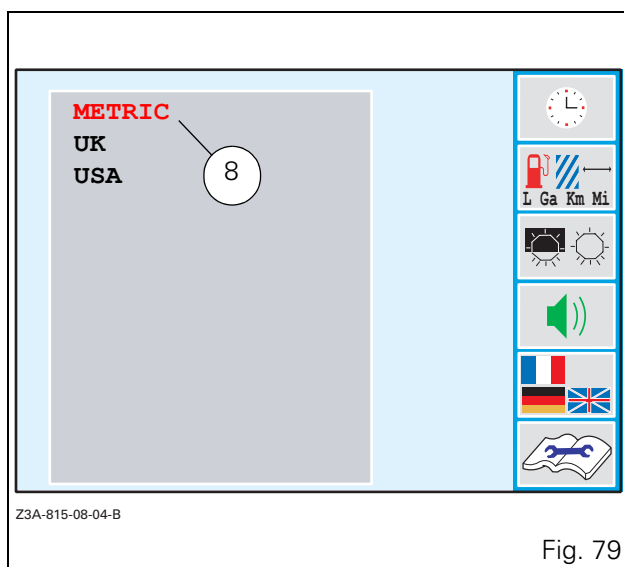

Fig. 79
- Press the key <<2 (the last selected unit is displayed in red (8 Fig. 79)).